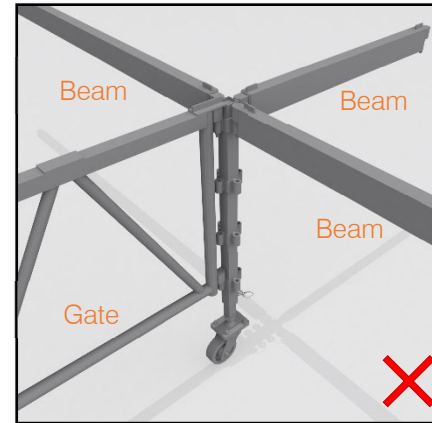
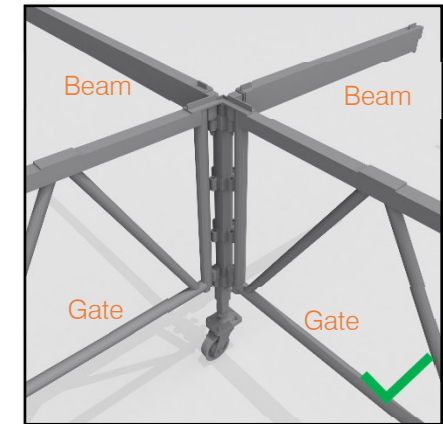

Fig. 23- Gates NOT at 90 Deg.
Fig. 24 - Gates at 90 Deg.
9.1.7.3 **Danger:** There must always be 2 off gates at 90 Deg, connected to each Node Post. Failure to do so shall result in the Node Post not having vertical stability and could cause the Deck to collapse. *Fig. 23- Gates NOT at 90 Deg. & Fig. 24 - Gates at 90 Deg.*
9.1.8.3 **Danger:** There must always be 2 off gates at 90 Deg, connected to each Node Post. Failure to do so shall result in the Node Post not having vertical stability and could cause the Deck to collapse. *Fig. 23- Gates NOT at 90 Deg. & Fig. 24 - Gates at 90 Deg.*